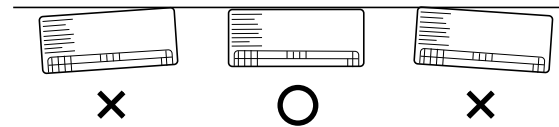

Fig. 3-51
- (2) Check with a tape measure or carpenter's level. This is important so that the unit is correctly installed. (Fig. 3-51)
- (3) Make sure the panel is flush against the wall. Any space between the wall and unit will cause noise and vibration.